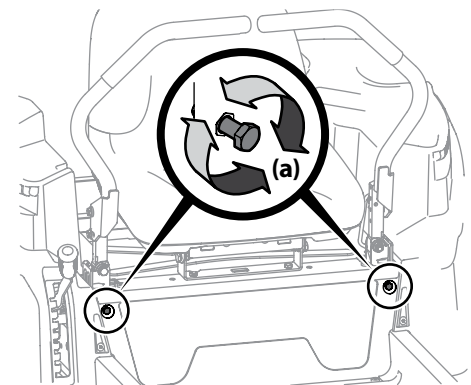

Figure 4-9
2. Locate the drive control lever stop adjustment bolts (a) on the front of the seat frame. See Figure 4-9.